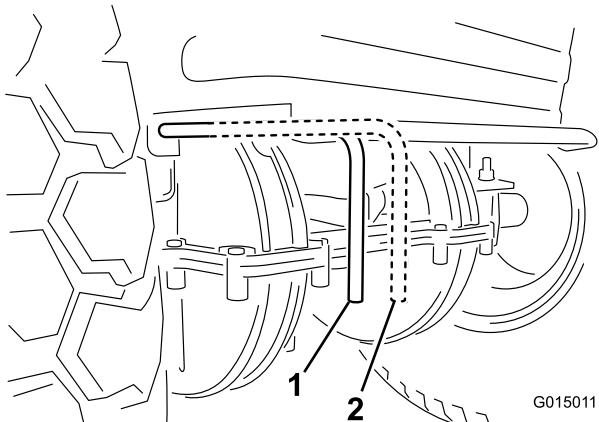

Figure 13
**Note:** This disengages the drive system and allows the wheels to turn freely (Figure 13).
Push the drive control into the Operate position to engage the drive system (Figure 13).